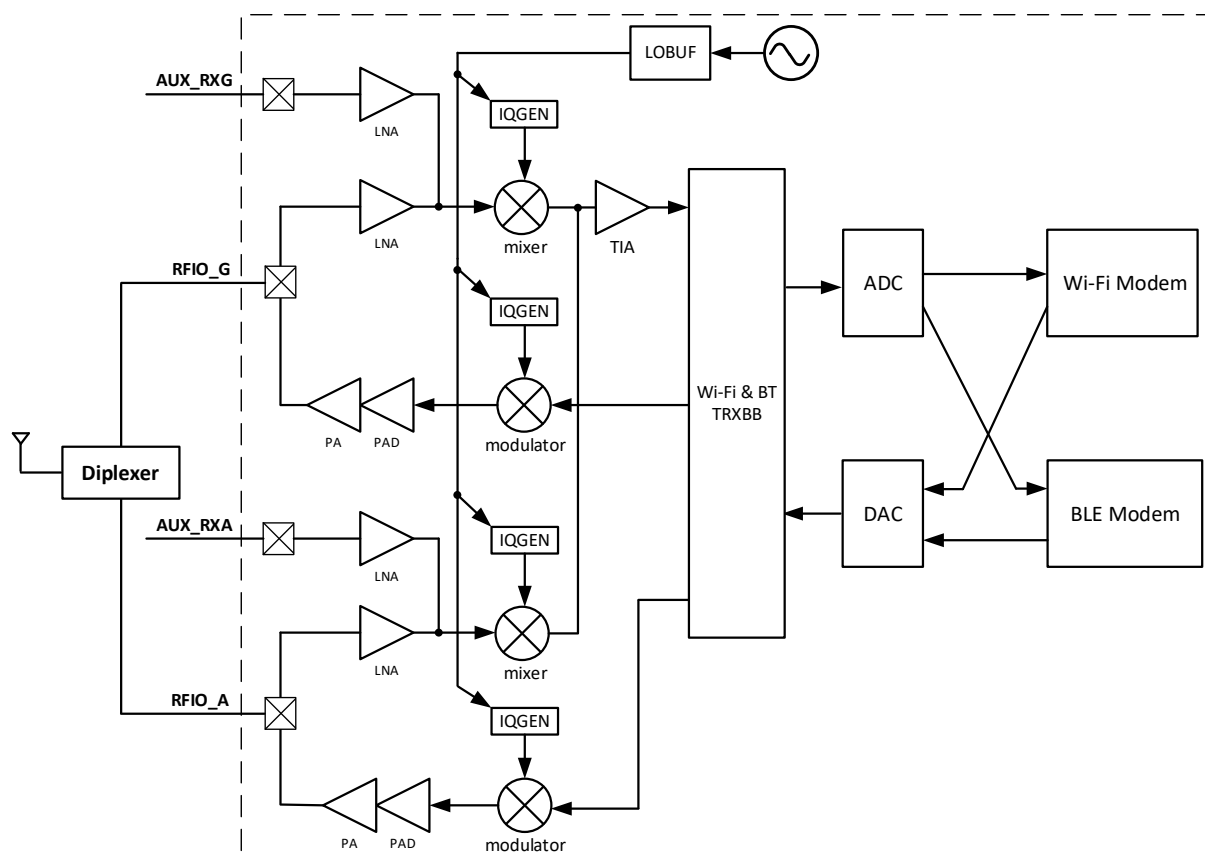

Figure 7-5 RF block diagram
The Radio Frequency (RF) block diagram of RTL8721F, including WLAN and BT modem, is given in Figure 7-5.